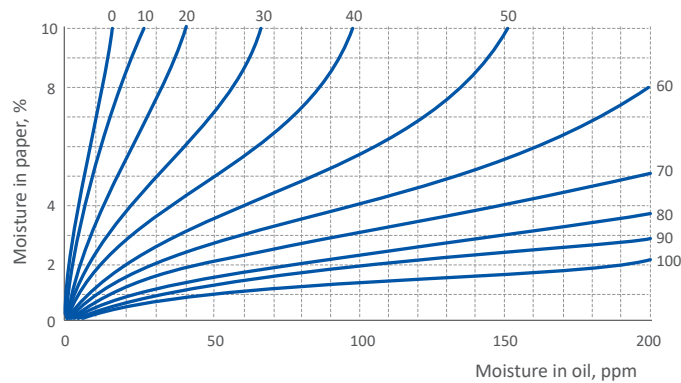

Figure 4. Moisture Equilibrium curves* (Oomen)
3. If PPM and oil temperature are known some curves exist (see Oomen curves figure 4) in order to link the water PPM in oil and the water content in paper. But these curves are only really valid at equilibrium which is in general never reached on a running transformer.